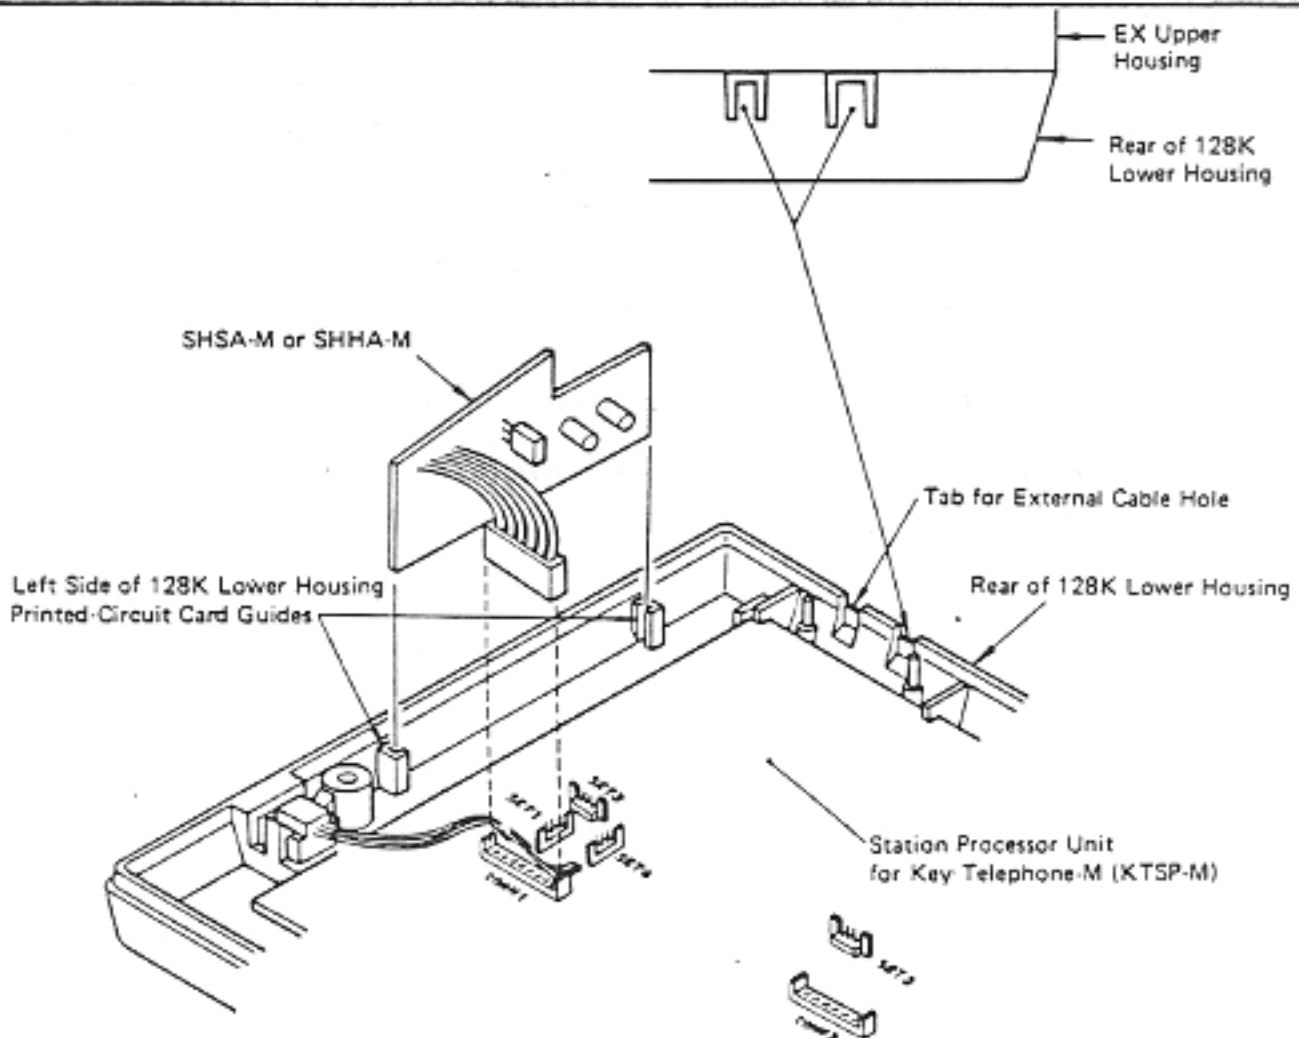

Figure 3.10.4.4(2)(a) Optional Unit Mounting in Key Telephone
The place for each of these options is shown in Figure 3.10.4.4(2)(a). Pass the external cable, such as from SHSA-M, through the hole opened by breaking the external cable tab in the rear of the 128K lowering housing, as shown in Figure 3.10.4.4(2)(a).
The key telephone housing can be opened by removing the three screws on the bottom, as shown in Figure 3.10.4.2 (5).